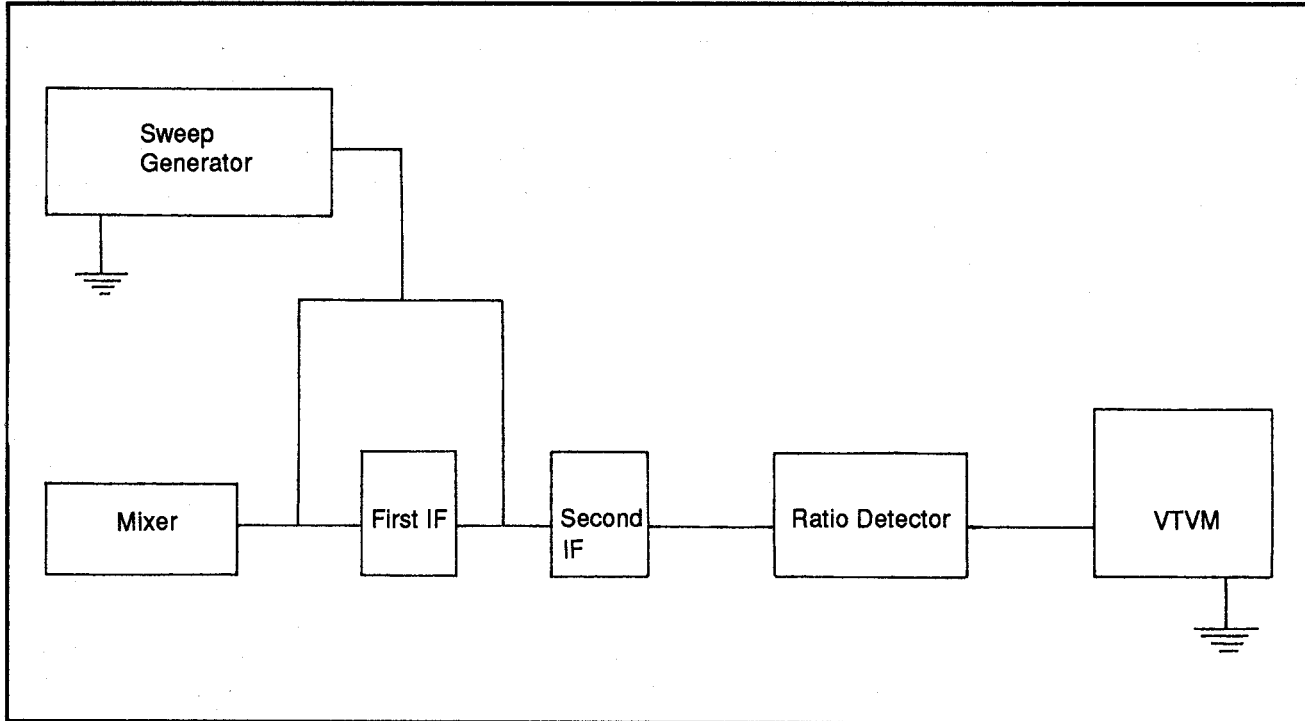

Figure 5: IF amplifier test for FM radio with ratio detector circuit
**IF Amplifier Check** This check is an IF alignment check. Use a sweep generator connected to the first IF amplifier input circuit as shown in Figure 5. The receiver oscillator should be shorted by placing a jumper across the oscillator wire. Set the sweep generator to the IF frequency (10.7 MHz, normally).